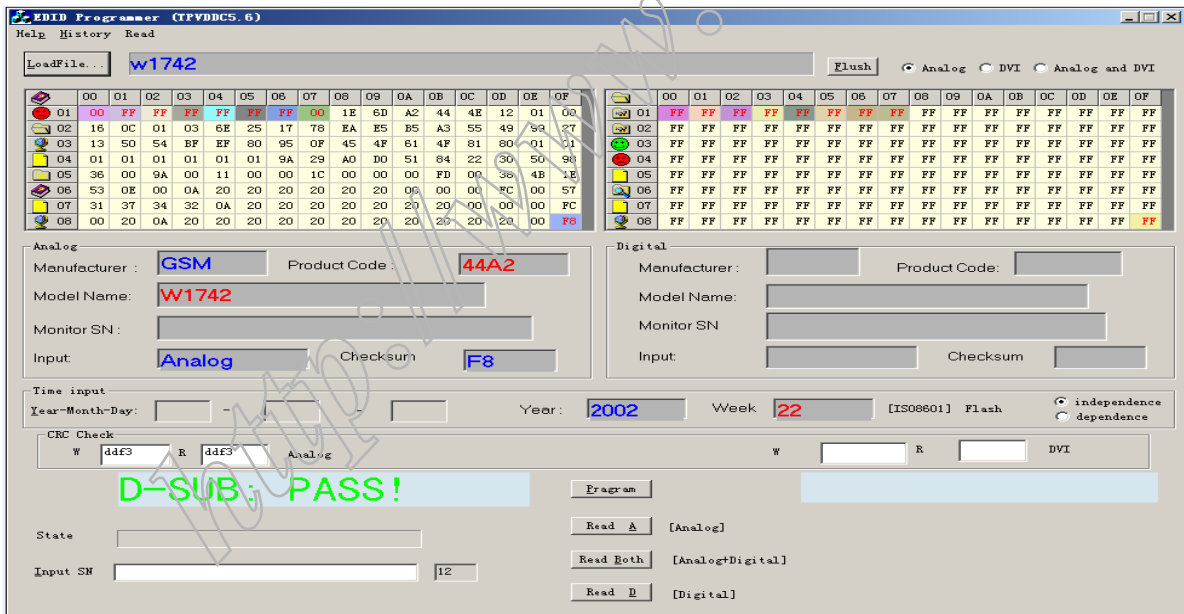

Fig.1
- 5、 According to the message of DDC program, when the picture as fig 1 appears, it show DDC record has finished